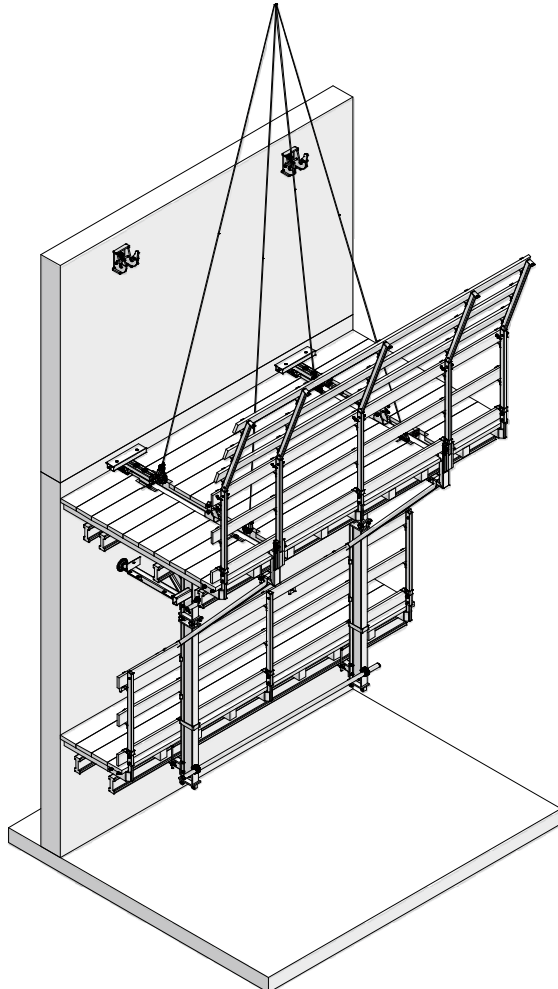

Fig. 37.1 With formwork support KLK
1. Attach the crane slings to the crane eyes of the KLK bracket (Fig. 37.1 and 37.2). The maximum load capacity of each KLK crane eye is 2,5 tons.